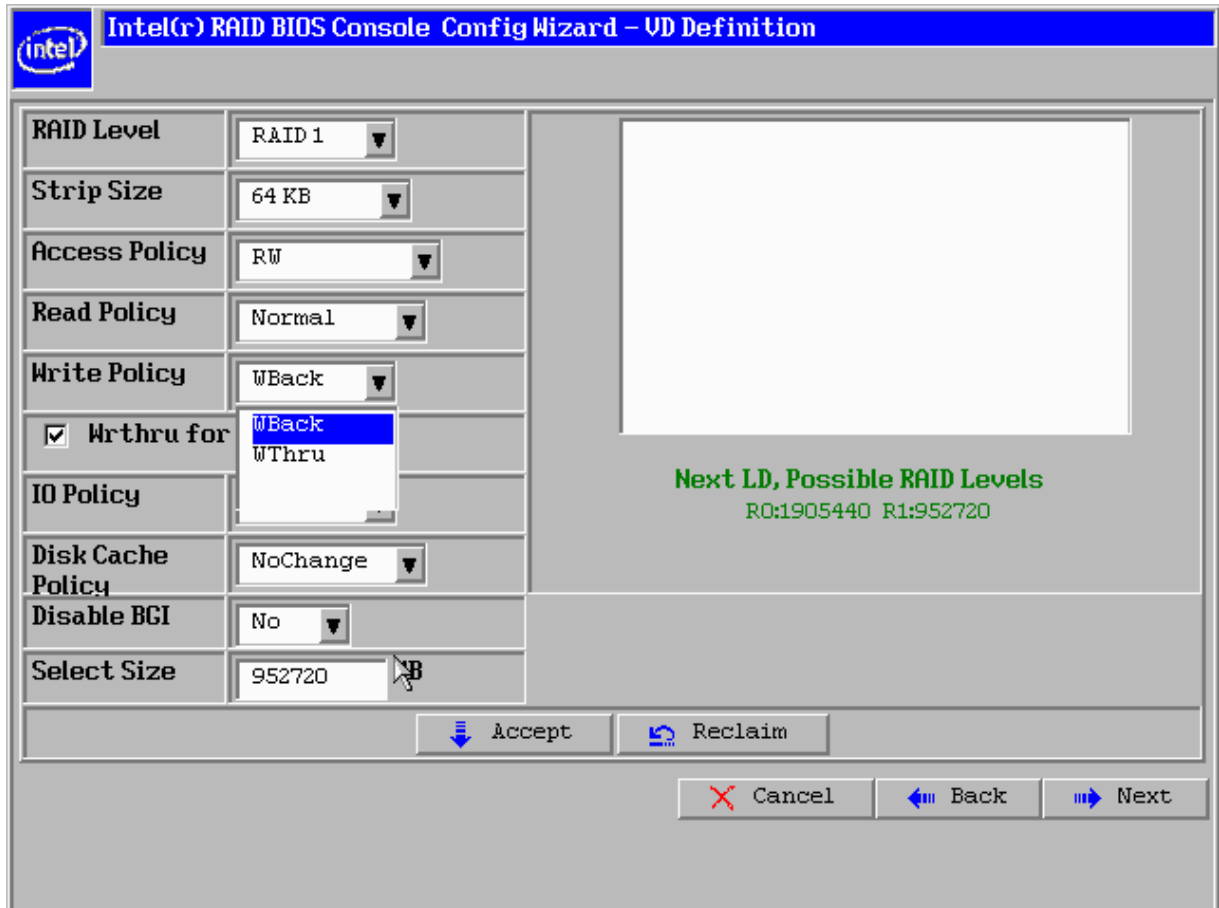

Figure 22. VD Definition Screen – Configuring RAID 1
17. On the VD Definition screen (see Figure 22), select **WBack** for the Write Policy and click **Accept** to finish RAID1 configuration.